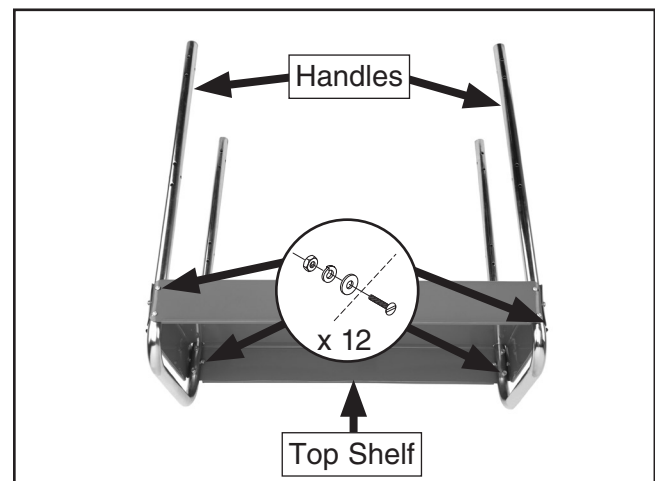

Figure 2. Handles secured to top shelf.
1. Insert the two handles through the holes at both ends of the top shelf (see **Figure 2**).
2. Align the mounting holes in the top shelf and handles, then fasten with (12) M6-1 x 35 slotted screws, flat washers, lock washers, and hex nuts (see **Figure 2**).